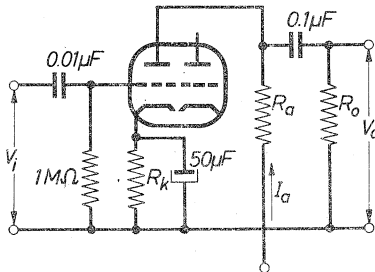

Fig. 1
A.F. amplifier Fig.1 see page 8